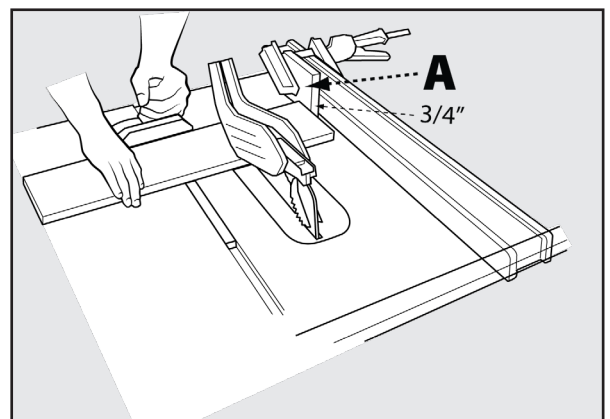

FIGURE 39
When crosscutting a number of pieces to the same length, you can clamp a block of wood (A) (See Figure 39) to the fence and use it as a cut-off gauge. The block (A) must be at least 3/4-inch (19 mm) thick to prevent the cut off piece from binding between the blade and the fence. Once the cut-off length is determined, lock the fence and use the miter gauge to feed the workpiece into the blade.